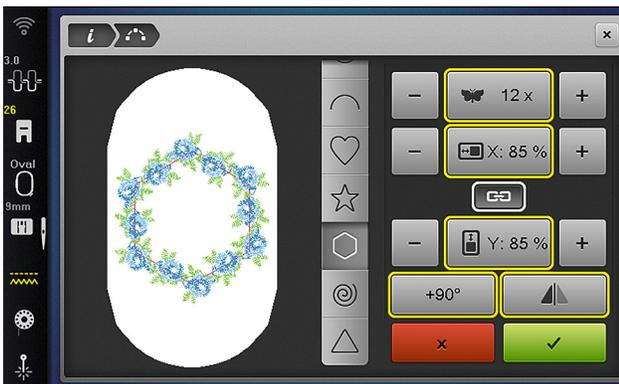

Fig. 9
9. Tap the Mirror image icon (Fig. 9).